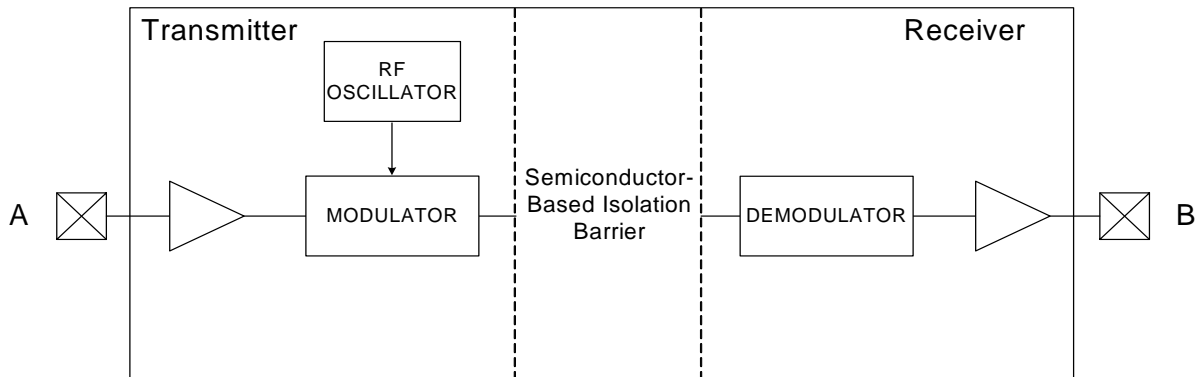

**Figure 3. (NB SOIC-16) Thermal Derating Curve, Dependence of Safety Limiting Values with Case Temperature per DIN EN 60747-5-2**
- Maximum value allowed in the event of a failure; also see the thermal derating curve in Figure 3.